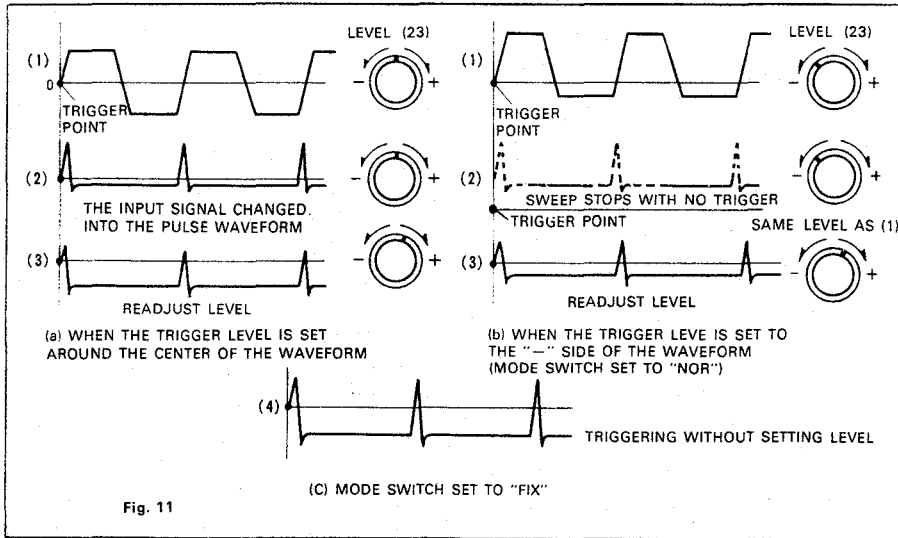

Fig. 11
When the input signal is suddenly changed from a square waveform to a pulse waveform, the trigger point is shifted extremely toward the "—" side of the waveform unless the triggering level is readjusted as shown in Fig. 11 (A). See Fig. (A)-(2), (3).
Also, if the trigger point has been set to the "—" of square waveform (Fig. 11 (B)-(1)) and the input signal is changed to a pulse signal, the trigger point is deviated and the sweeping stops. When this happens, set FIX/NORM to FIX position and the triggering is effected in the approximate center of the waveform, making it possible to observe a stabilized waveform. Fig. 11 (C).